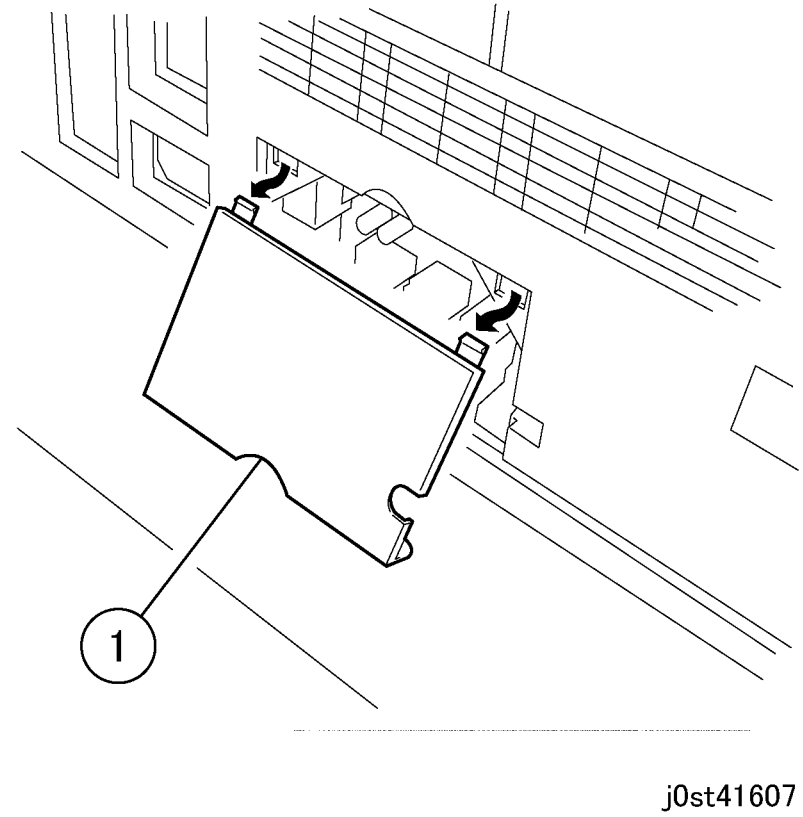

Figure 3 Removing the cover (j0st41607)
4. Remove the cover. (Figure 3)